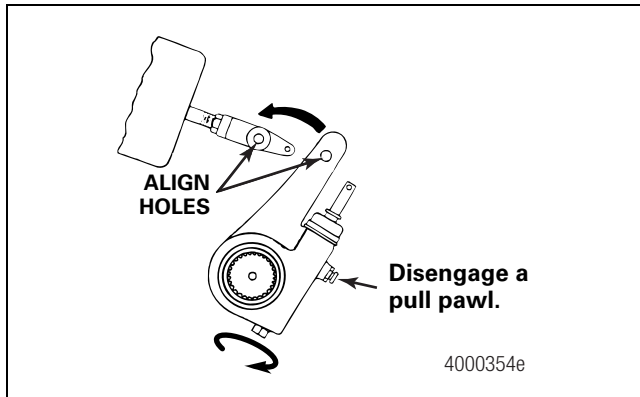

Figure 6
11. Disengage the pull pawl. Turn the manual adjusting nut to align the holes in the slack adjuster arm and clevis. Figure 6.